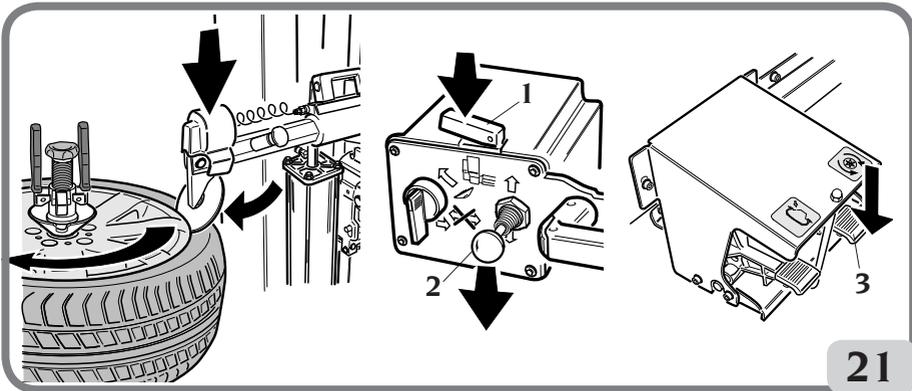

Fig. 21), while at the same time lowering the bead breaker disc a little at a time (using
- Preload the bead breaker disc using control (2, Fig. 21). The tyre should be pressed down by about 5 mm.
- Start disc penetration (1, Fig. 21) and then start wheel rotation (3, (3,
control (2, Fig. 21).
control (1, Fig. 21).